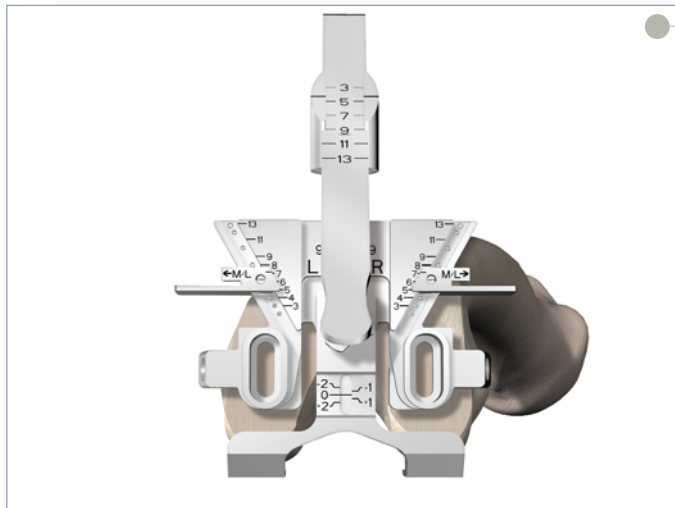

Figure 11
- ▶ Attach the Modular Handles to Sizer. Set the A/P adjustment indicator to "0" (Figure 11).